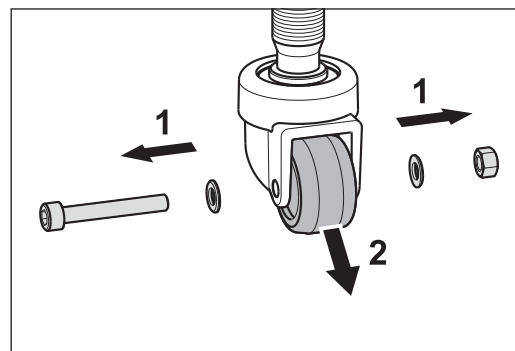

Fig. 68 Remove the screw, the two washers and the nut (1) and remove the wheel from the wheel fork (2).
- Remove the screw with the two washers and the nut from the wheel fork (fig. 68, 1).
- Remove the wheel from the wheel fork (fig. 68, 2).